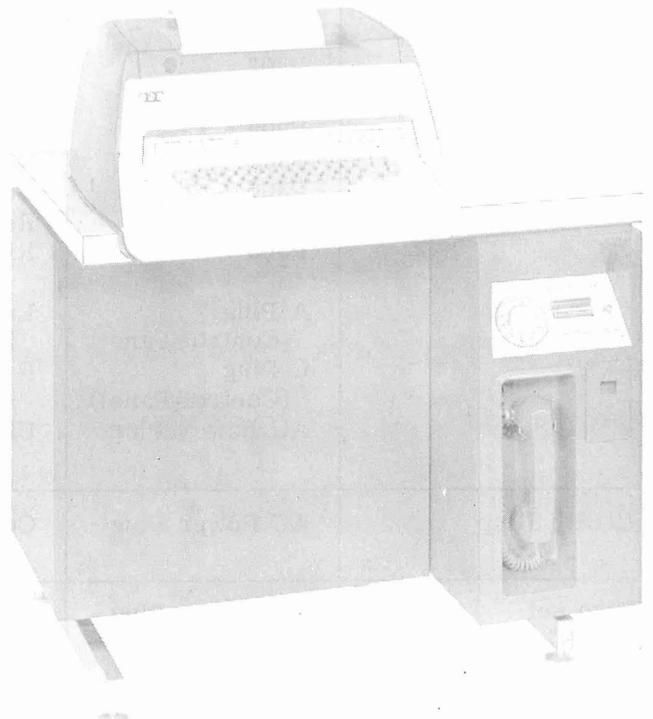

Figure 1 - 37 TTY KSR Data Station
1.01 This section describes the procedures to be followed when installing a Model 37 Keyboard Send-Receive (KSR) Teletypewriter (TTY) Data Station for DATA-PHONE service (Figure 1). The station operates at 150 words per minute and uses Data Set 103H1 and 37 TTY KSR which conforms to the EIA RS-232-B Interface Standard.